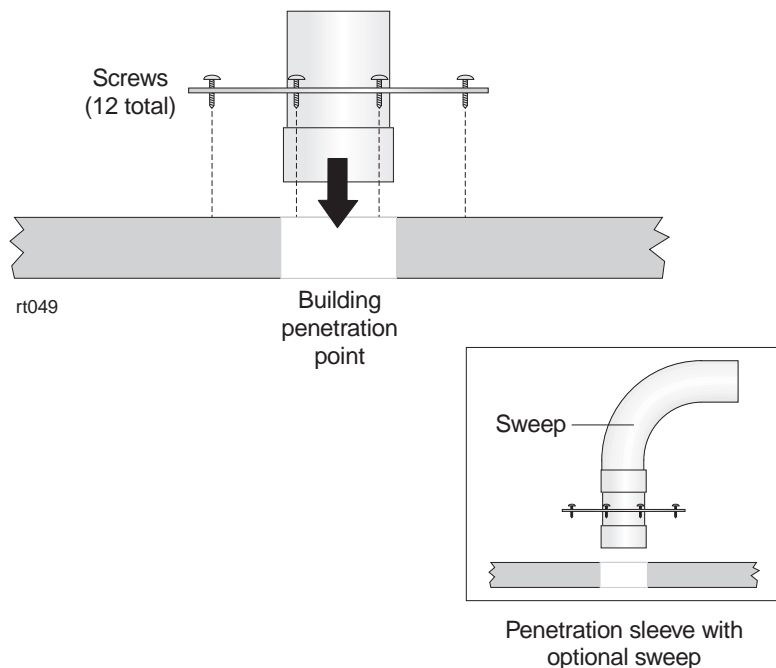

Figure 5-3 Installing the hub penetration sleeve
1. Use twelve screws to attach the hub penetration sleeve (sleeve and coupling) to the building surface at the building penetration point. See figure 5-3.
Note: The penetration sleeve location is site-specific and dependent on the building penetration point. An optional sweep, shown in figure 5-3, is available for use with the penetration sleeve for locations where space is limited.
2. Run the cable from the IDU chassis location, through an existing conduit if possible, through the hub penetration sleeve (figure 5-3), to the lightning arrester location. Use a stand so the cable spool spins freely as it is pulled. Leave a service loop.